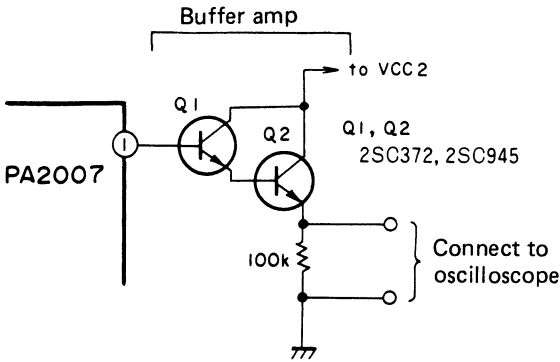

Fig. 11-4 Connect buffer amp
- 2. Connect a buffer amp to pin 1 of IC PA2007, and connect the output to a oscilloscope (Fig. 11-4).